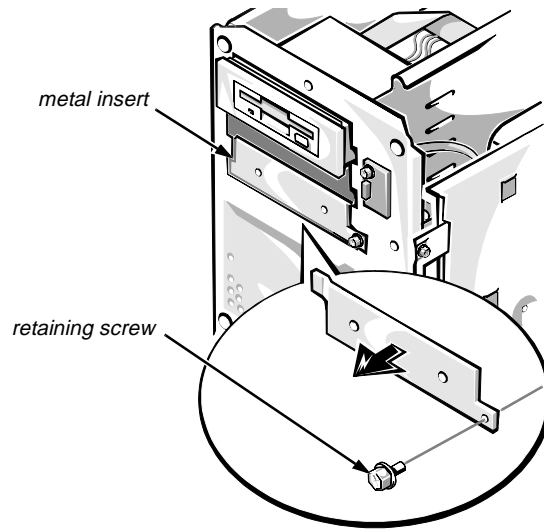

Figure 4-5. Metal Insert Removal
- 2. Remove the retaining screw at the right end of the metal insert (see Figure 4-5).**